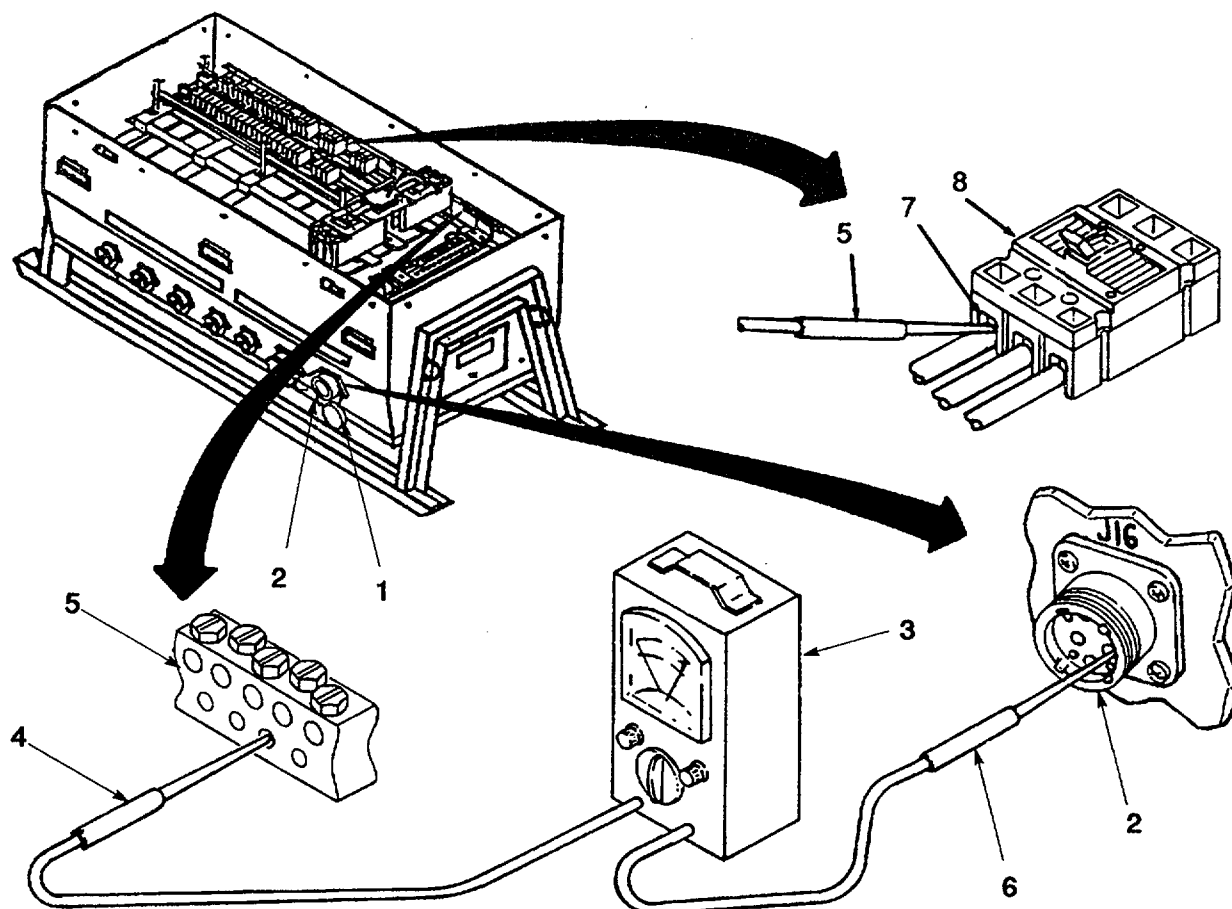

Figure 4-12. MS Connectors.
- a. Remove cover (1, Figure 4-12) from connector (2).
- b. Preset multimeter (3) to perform continuity testing.
- c. Touch one probe (4) of multimeter to bus bar (5) designated NEUTRAL.